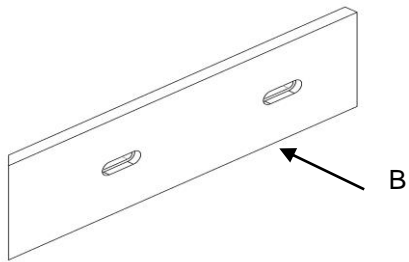

Fig 3
- 1 Backgauge Seat Right Plate (B) FIG 3